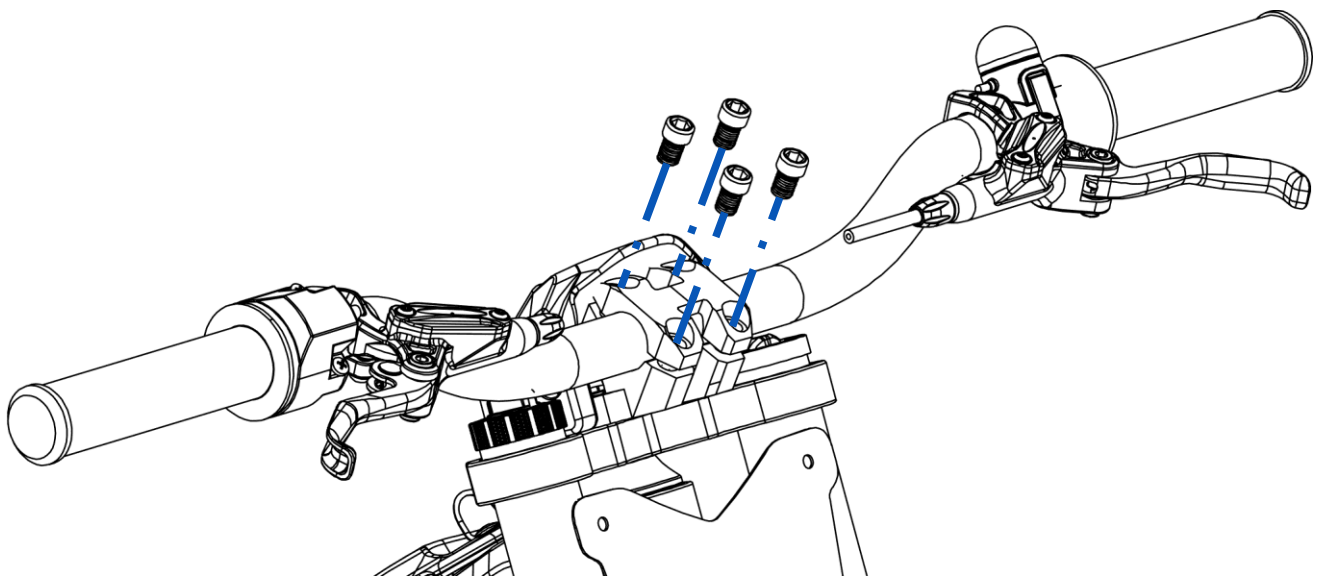
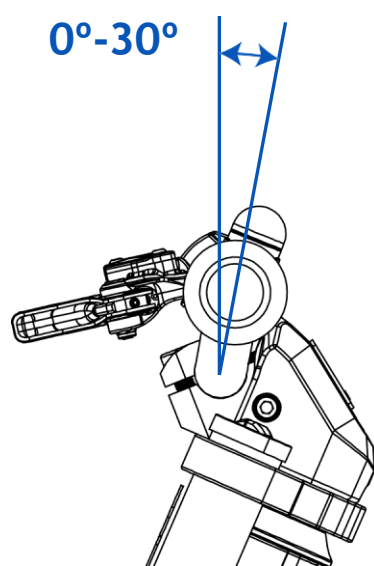

Fig. 7
Fig. 14
15. Next, the handlebar must be adjusted to the specific angle between 0° and 30° (Fig. 14), with which the rider feels comfortable. Always in contact with the upper plate. And secure it with the same four M6 Allen screws (Fig. 7) above, with a torque of 1 Kgf.m.